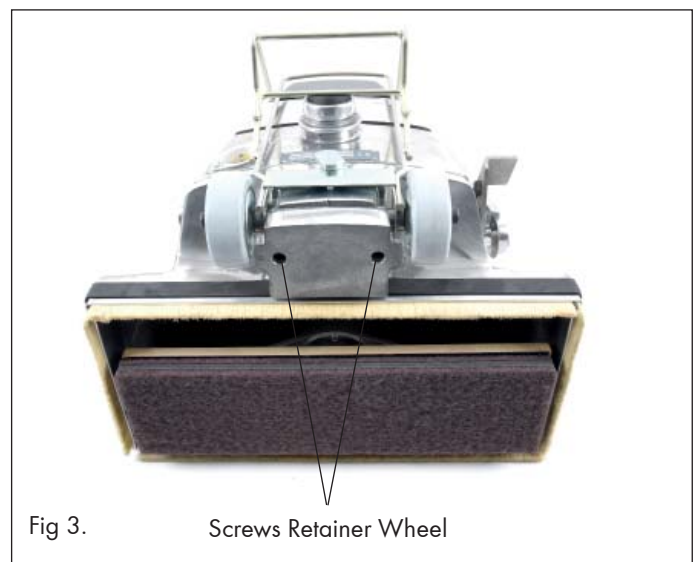

Fig 3. Screws Retainer Wheel
5. Using the 5mm Hex Allen Key remove the two screws from the Retainer Wheel Fig 3.